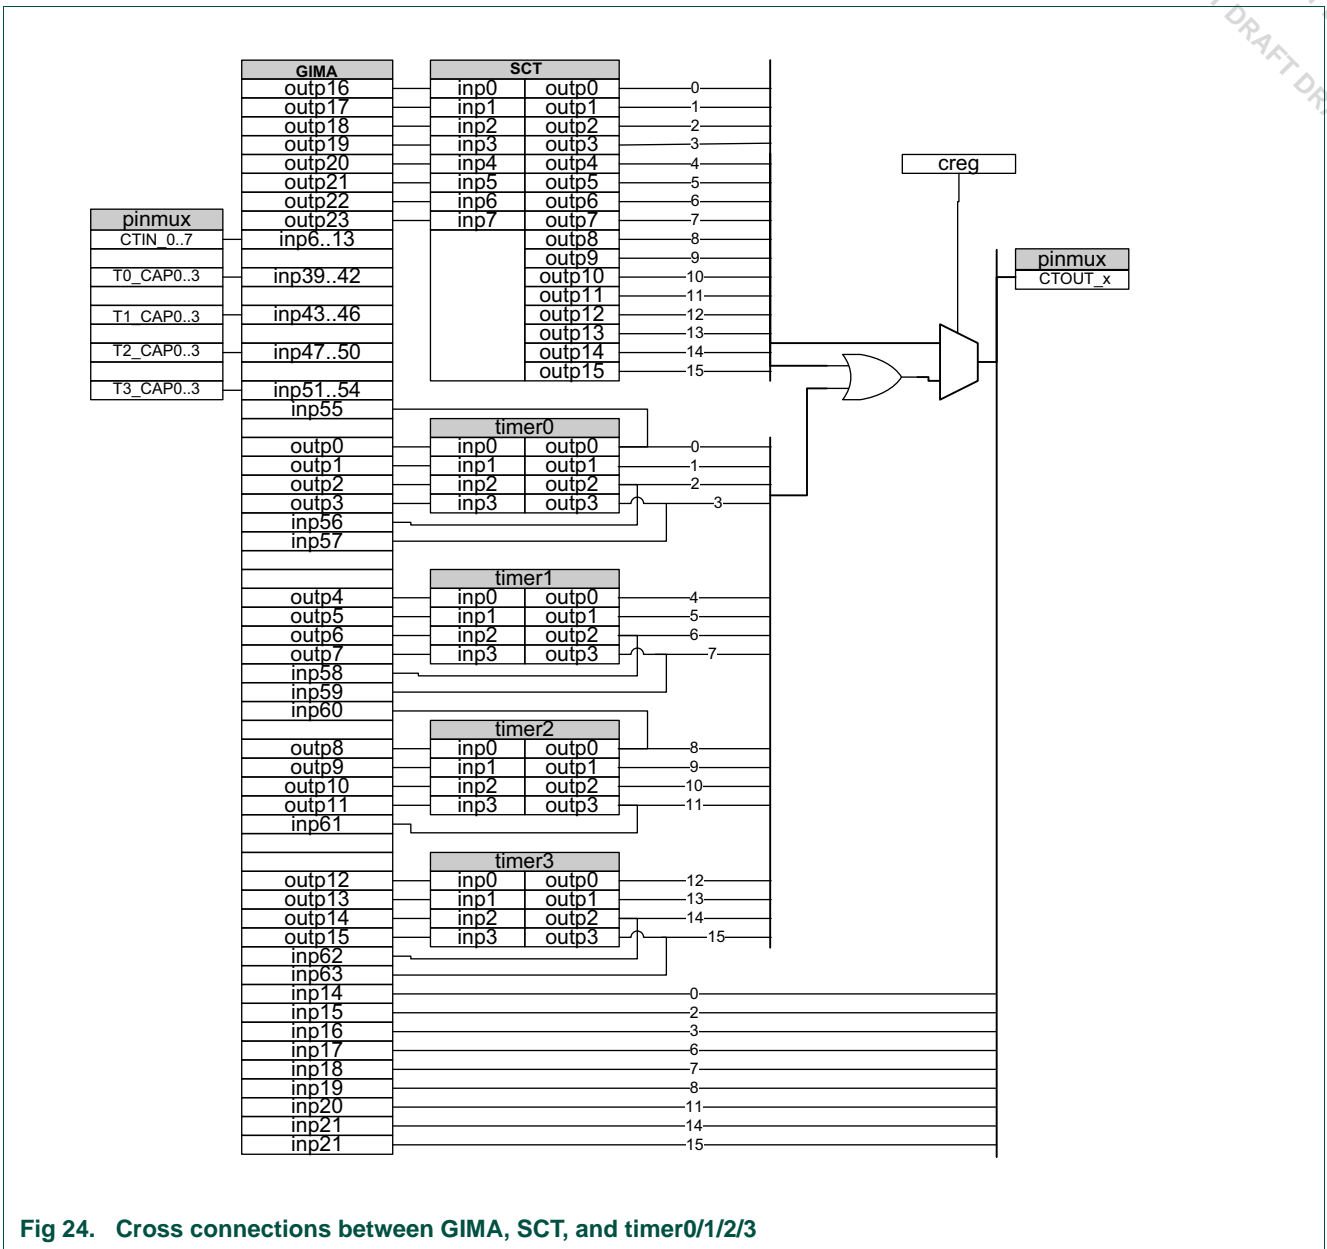
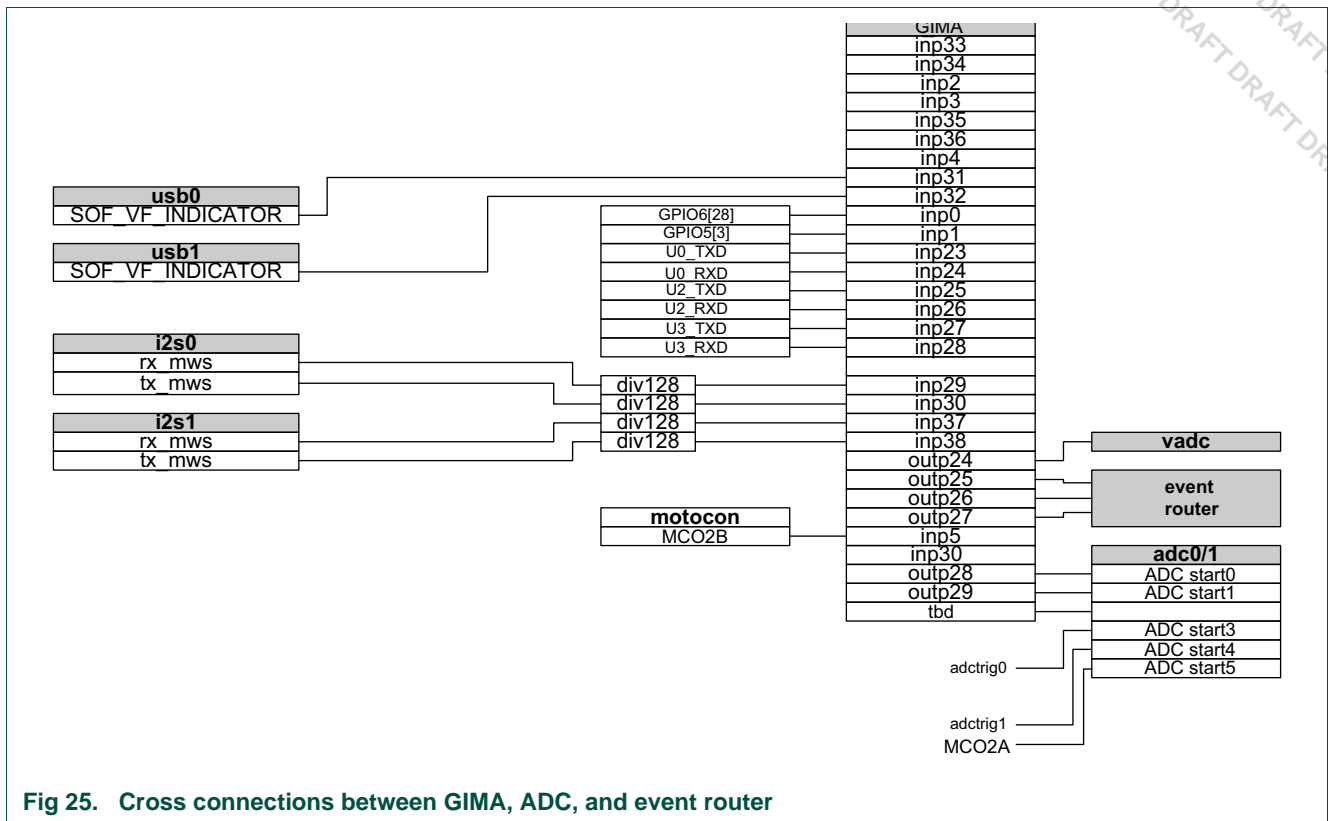

Fig 24. Cross connections between GIMA, SCT, and timer0/1/2/3
Fig 25. Cross connections between GIMA, ADC, and event router
- The GIMA outputs are connected to the timer, SCT, ADC, and event router peripherals (see Figure 24 and Figure 25).